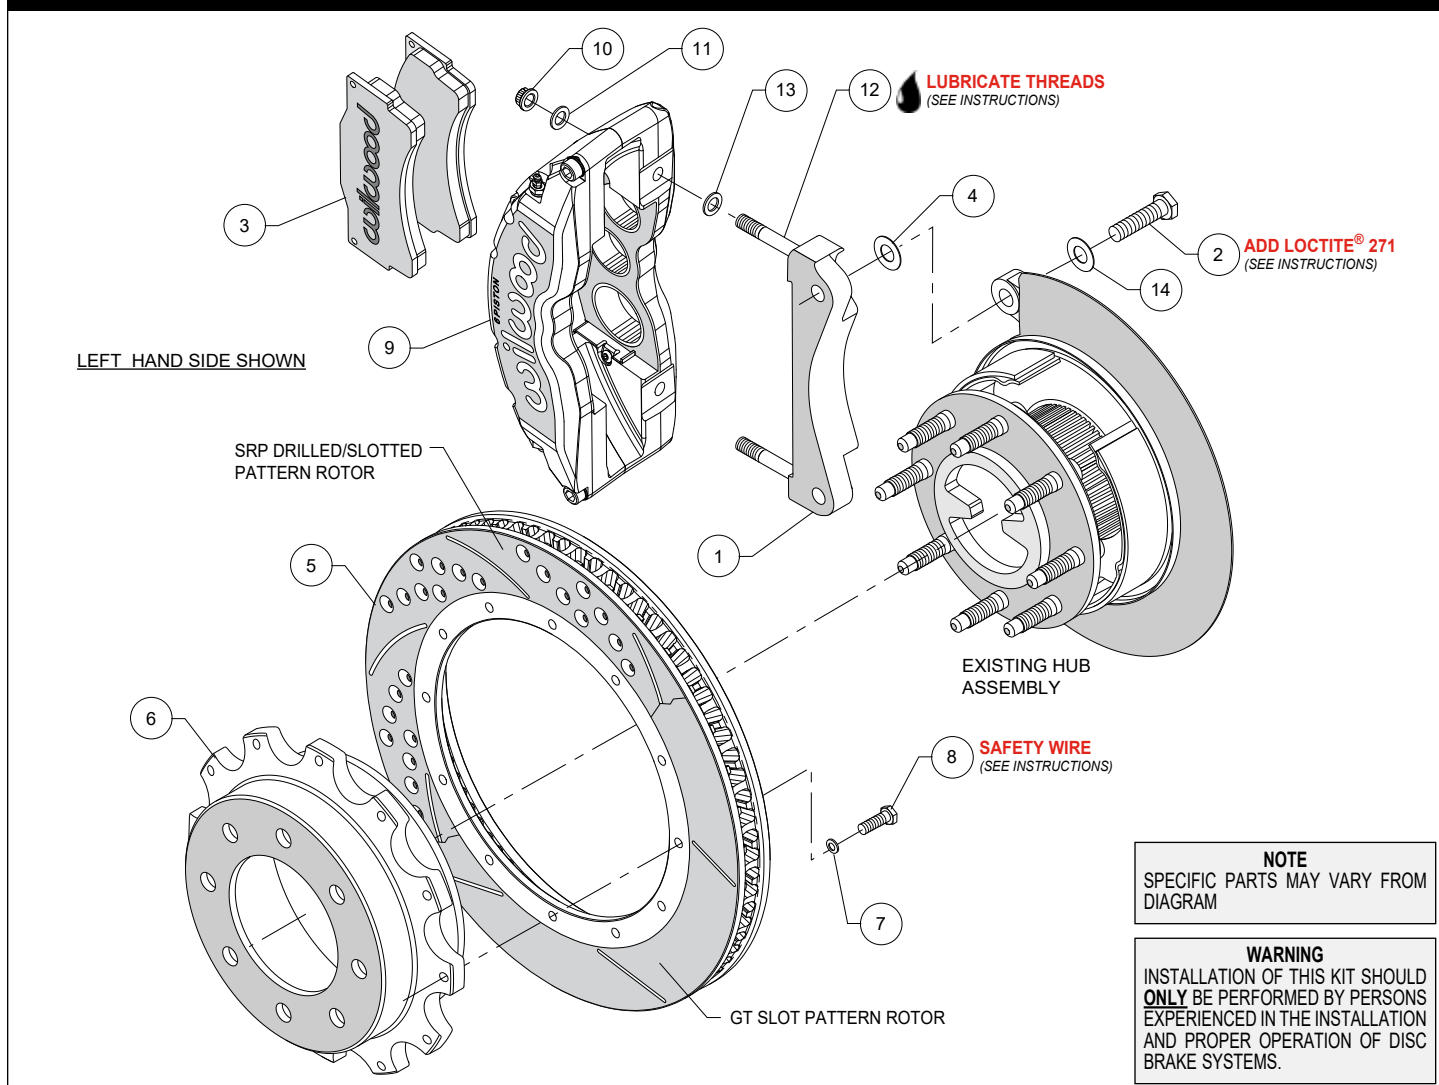
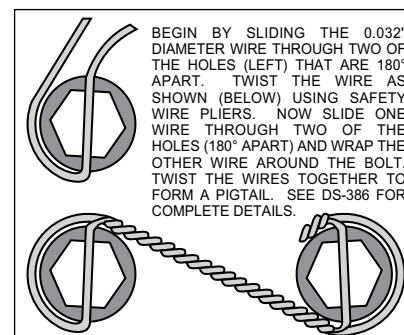

Figure 1. Typical Installation Configuration
Figure 3. Safety Wire Diagram
NOTE: Numbers in parenthesis refer to the parts list and Figure 1 on the preceding pages.
- The caliper mount bracket assembly (1) should be installed first with clean, dry threads on the mounting bolts (2). Install the bracket by sliding bolt (2) through washer (14) from the rear side of the hub through the OEM caliper mounting bracket ears, then through an additional shim washer (4) and into the bracket (1). The bracket must tighten squarely against the outboard side of the caliper mount bosses on the upright. Inspect for interference from casting irregularities, machining ridges, burrs, etc. Use one shim (4) between the bracket and upright during initial trial fitting. Later, after the caliper, pad, and rotor alignment have been checked, and any necessary shims have been put in place, the mounting bolt threads (2) should be coated with red *Loctite*® 271 and torqued to 105 ft-lbs.
- Attach the rotor (5) to the hat (6) using bolts (8) and washers (7) as shown in Figure 1. Using an alternating sequence, torque bolts- to 25 ft-lb. Bolts must be safety wired using standard 0.032 inch diameter stainless steel safety wire as shown in Figure 3. Please refer to Wilwood's data sheet DS-386 (available at www.wilwood.com/Pdf/DataSheets/ds386.pdf) for complete safety wire installation instructions.
- Lubricate caliper mounting studs and nuts with lightweight oil. Install one shim (13) over each stud (12) on the radial mount bracket (1). Slide the caliper (9) in place over the studs and rotor and install the washers (11) [up to 4 may be required on each side to keep the lock nut from bottoming out on the stud], and lock nut (10) to hold the caliper in place. The caliper bleed screws should be pointing up. Snug the lock nuts (10) and check that the rotor (5) is centered in the caliper (9). Add or subtract .029" shims (4) as necessary between the caliper mount bracket and the caliper mount bosses on the upright assembly to center the caliper.
- Remove the two caliper center bridge pad retainer bolts, nuts, and tubes from the caliper. Slide the brake pads (3) into place. They should install easily without interference. Check that the outside radius of the brake pad is aligned with the outside diameter radius of the rotor face. Add or subtract shims (13) between the caliper and mount bracket to gain the proper alignment. Reinstall the two center bridge pad retainer tubes, bolts, and lock nuts. The locknut should be snug without play in the bolt or tube. Be cautious not to over tighten.
- Once all clearances have been checked, remove the wheel, caliper and rotor from the axle flange. Secure the caliper mounting bracket (1) to the axle flange body with bolts (2) while coating the threads with red *Loctite*® 271.